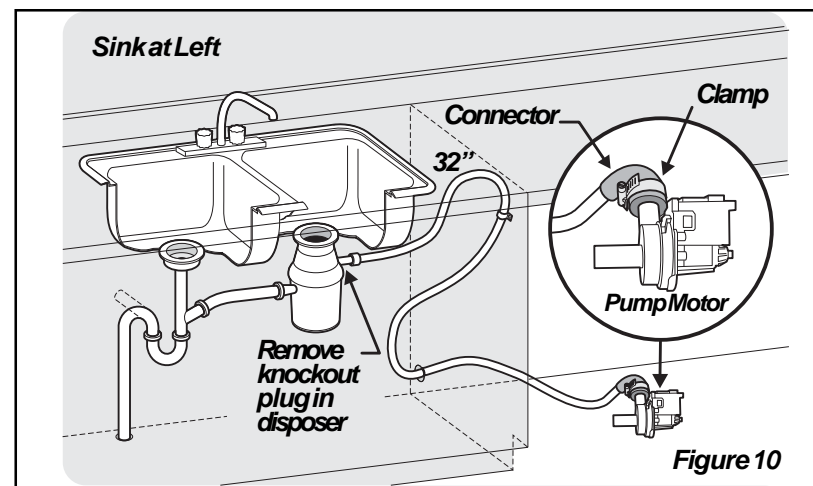

Figure 10
- Be sure unit does not rest on drain hose. It should be free of electrical components and door springs. Do not cut corrugated drain hose. Pull excess through cabinet and place under sink. Make sure hose does not come in contact with any sharp edges. See **Figure 10**.